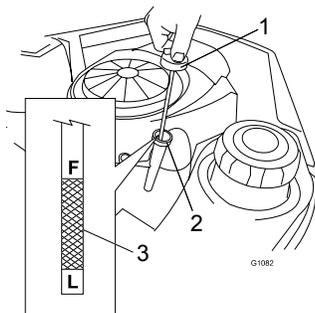
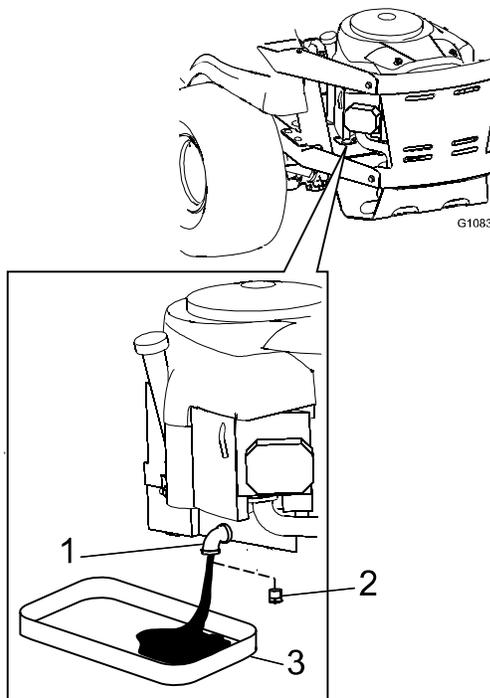

Figure 24
Figure 25
4. Pull and remove the oil fill cap/dipstick; wipe oil off. Reinsert the dipstick and push firmly into place (Figure 24).
5. Remove the dipstick and check the oil level. (Figure 24).
5. Clean the area around the drain plug and on the machine frame. Place a pan underneath machine directly below the drain hole in the frame as shown in Figure 24.
6. Remove the oil drain plug (Figure 25). Remove the oil fill cap/dipstick (Figure 24).
9. When the oil has drained completely, install the oil drain plug. Tighten the plug to 14 N-m (125 in-lb) torque. Wipe up any excess oil on the frame (Figure 25).
12. Slowly pour approximately 80% of the specified oil into the filler tube (Figure 24).
13. Install the oil fill cap/dipstick and push firmly into place (Figure 24).
14. Check the oil level (Figure 24); refer to Checking the Oil Level.
16. Install the oil fill cap/dipstick and push firmly into place (Figure 24).